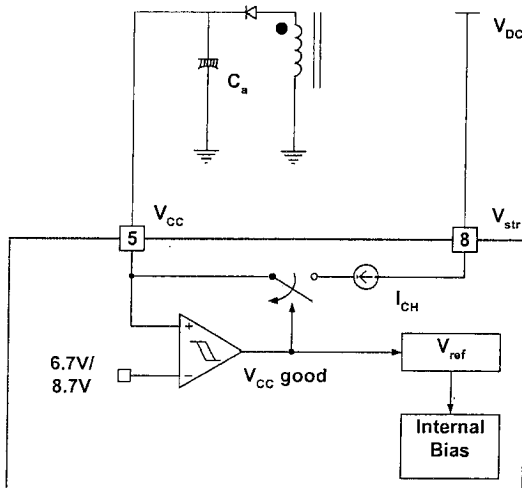

Figure 13. Start-up Block
1. Start-up: At start-up, an internal high-voltage current source supplies the internal bias and charges the external capacitor (C_a) connected to the V_{CC} pin, as illustrated in Figure 13. When V_{CC} reaches 8.7V, the FPS begins switching and the internal high-voltage current source is disabled. The FPS continues normal switching operation and the power is supplied from the auxiliary transformer winding unless V_{CC} goes below the stop voltage of 6.7V.